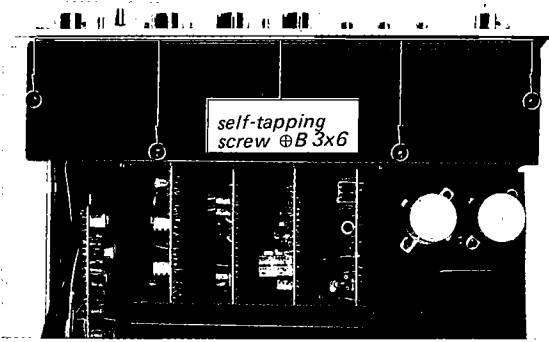

Fig. 2-2. Front subchassis's top cover removal
3. Remove the four self-tapping screws (⊕ B 3x6) securing the front subchassis's top cover and lift off it. See Fig. 2-2.